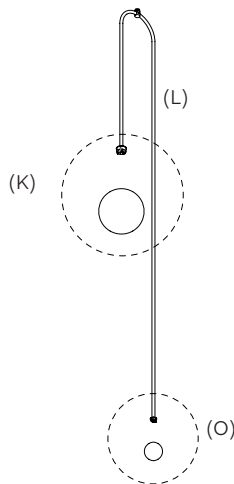
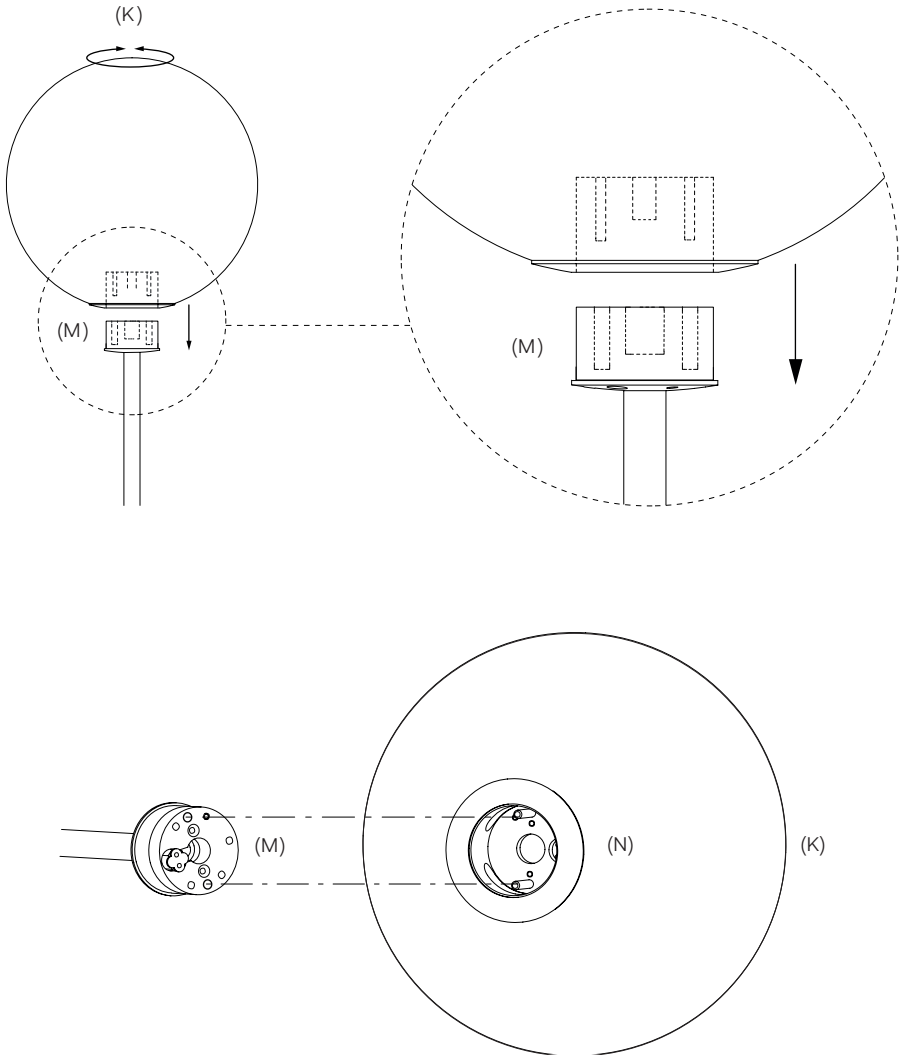

Fig. 13
Fig. 14
Secure the Large Globe (K) with the supplied M2×20 screw and hex key, ensuring it is tight to keep the connectors flush. See Fig. 13 and Fig. 14.